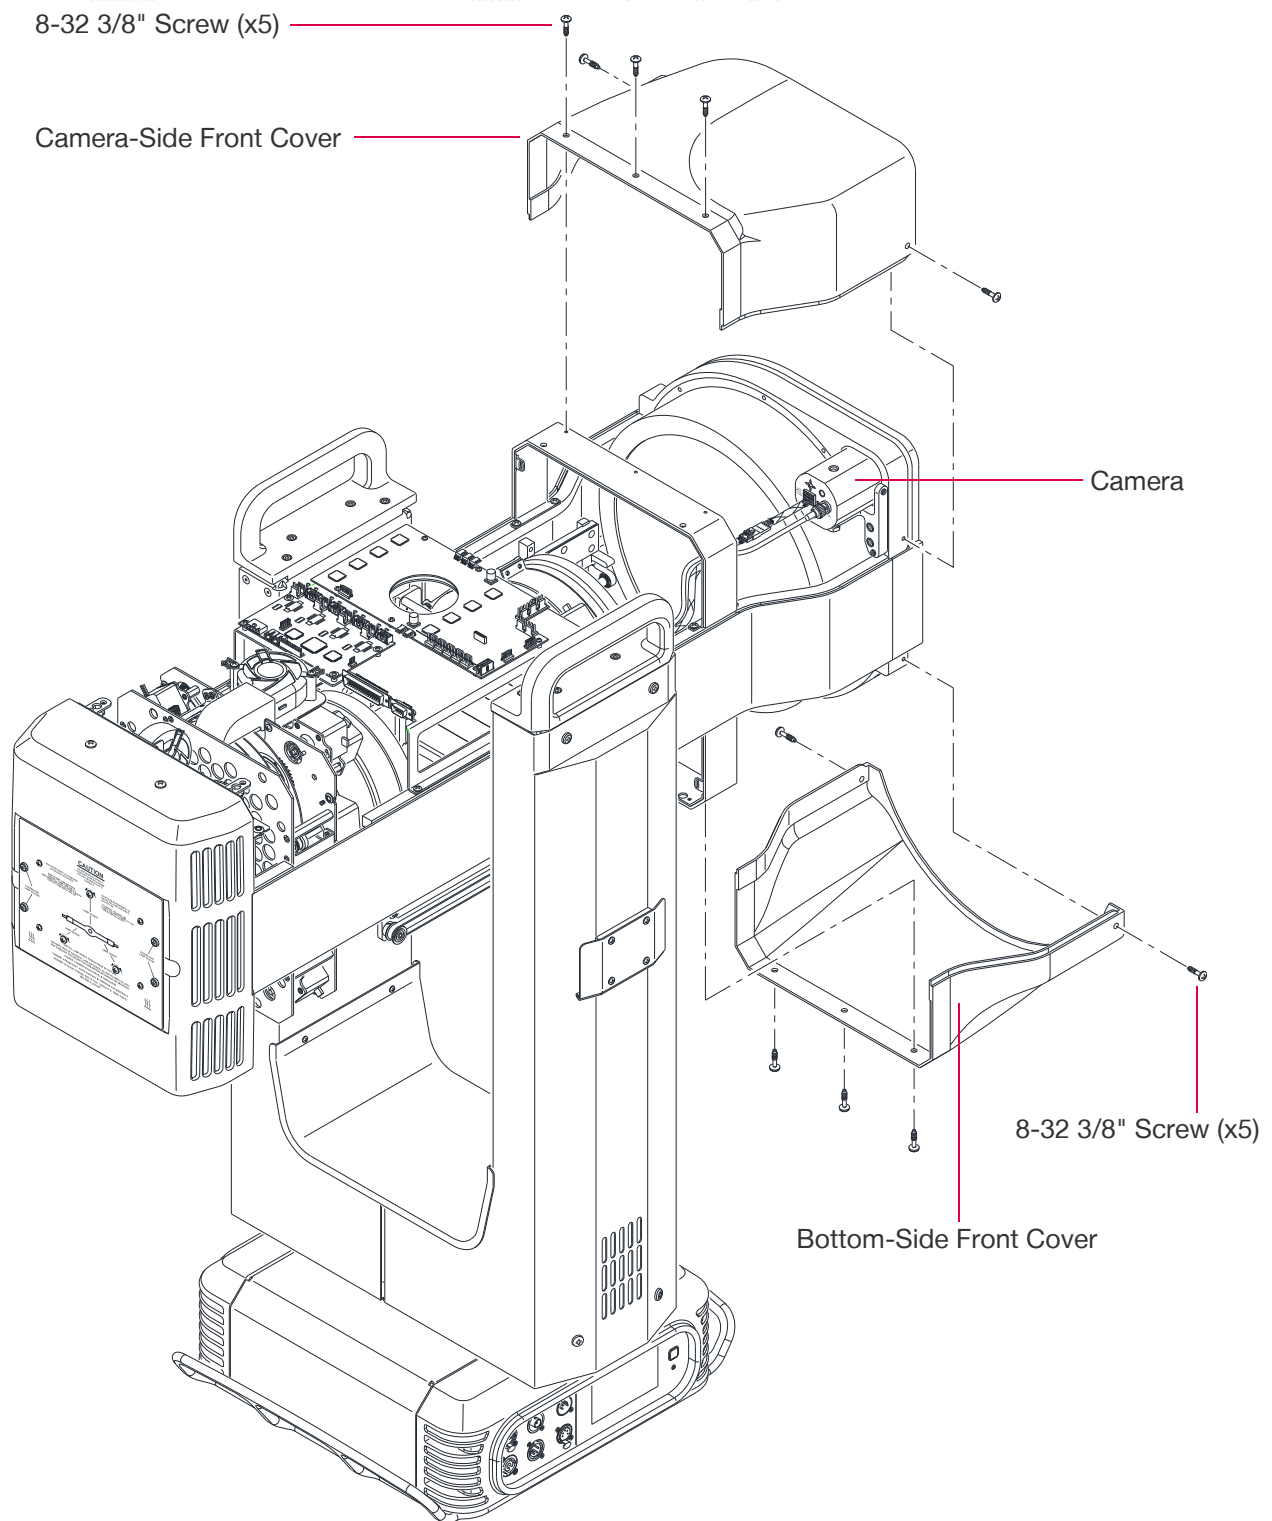

Figure 3-3: Removing Camera-Side and Bottom-Side Front Covers
- Step 1. At Camera-Side Front Cover, loosen five (5) 8-32 x 3/8" screws (**Figure 3-3**).
- Step 3. At Bottom-Side Front Cover, loosen five (5) 8-32 x 3/8" screws (**Figure 3-3**).
- b. Replace and tighten the five (5) 8-32 x 3/8" screws.